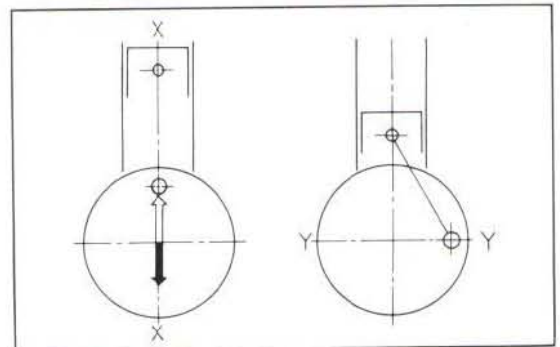

Fig. 3.38 0% balance
Gyrating mas (m) is obtained by substracting the gyrating mass of the crankpin and the connecting rod from the total weight of the counterweight. Reciprocating mas (M) includes the reciprocating mass of the piston, piston pin, and connecting rod. It determines the balance in the X-X direction and Y-Y direction as shown in the Fig. 3.38.
First of all, consider the case in which the rotating unit is in perfect balance (m=0). The inertia in the direction of X-X produced by the reciprocation motion of M acts intermittently, and sets up vibration within the engine. This is referred to as "0% balance". (Fig. 3.38)